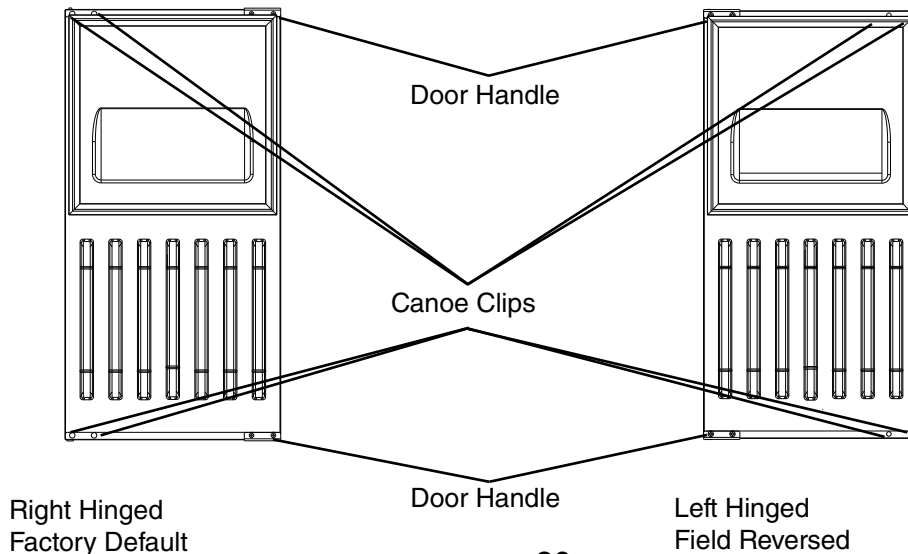

Fig. 23
- 3) Insert the 4 canoe clips included in the accessory bag into the upper and lower holes on the inside of the door opposite from the door handle. See Fig. 23. These holes are provided to allow for door reversal and must be filled when not used.